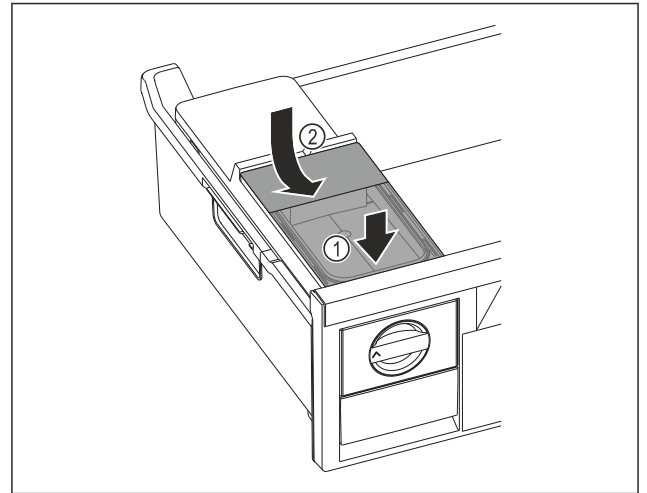

Fig. 43
- Position the water tank at the front. Fig. 43 (1)
- Lower the water tank at the rear. Fig. 43 (2)